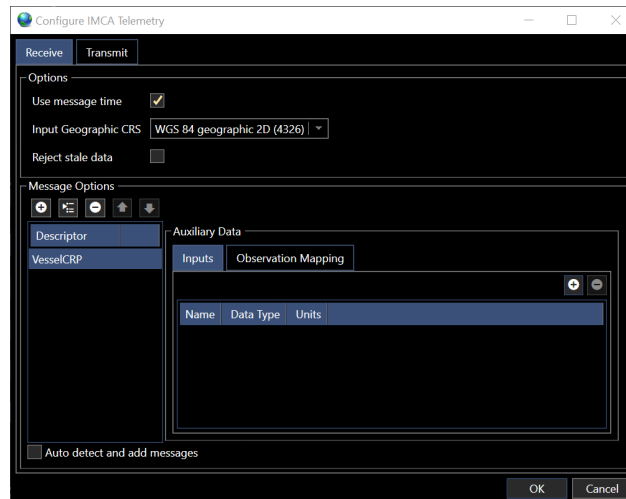

Figure 11 Descriptor Added
1. Click the Add button to add a row to the data grid to allow entry of a new **Descriptor**, see Figure 11.